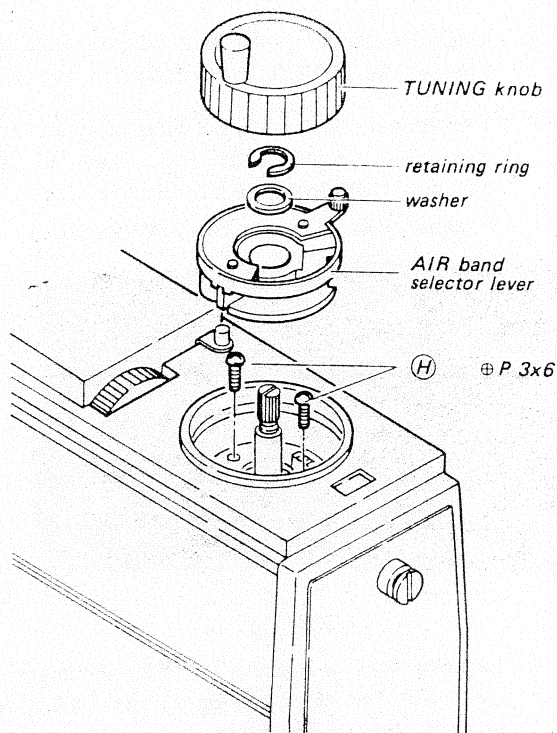

Fig. 2-5
5. Take out the AIR band selector lever shown in Fig. 2-5.
6. Remove the two screws (P 3x6) marked (H) in Fig. 2-5.